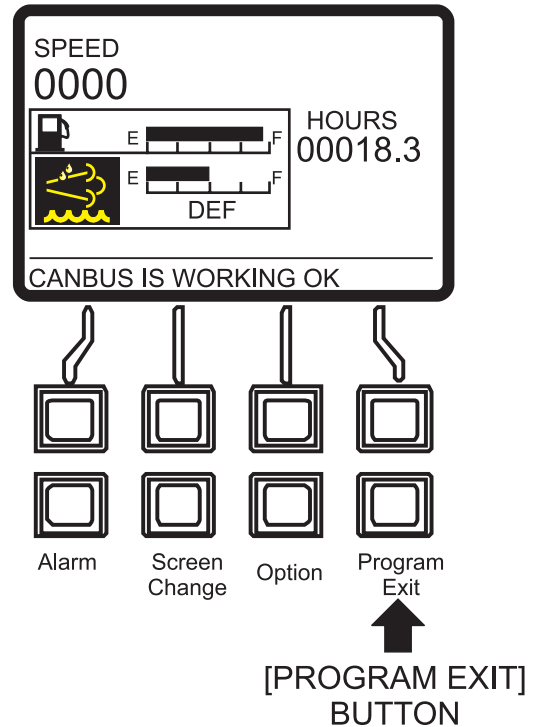

Figure 92. Main Screen
3. Press the [Program/Exit] button (Figure 92) to enter the Main Menu.